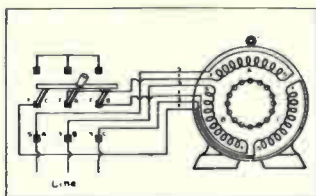

Fig. 16-41
**Fig. 16-41.** Star-delta starting of squirrel cage motor by means of 3-pole double-throw switch. Reduced voltage starting with star connection obtained with switch in upper position. In lower position, windings connected in delta for running.